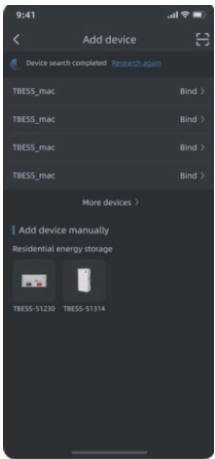

Figure 2
- 2)Figure 2: The list of found devices is displayed. Select the device to be added and click "Bind". If no device is found, click "Research again" or use another method.